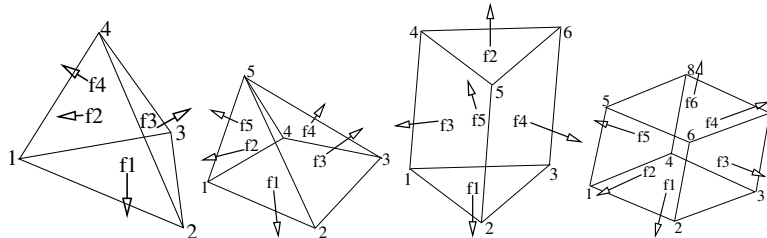

Figure 4.1: Mesh element types in Parmec.
- **elements** - list of elements:  $[e1, n1, n2, \dots, ne1, me1, e2, n1, n2, \dots, ne2, me2, \dots]$ , where  $e1$  is the number of nodes of the first element,  $n1, n2, \dots, ne1$  enumerate the element nodes, and  $me1$  is the material number. Similarly for the second and all remaining elements. Supported numbers of nodes per element are 4, 5, 6, and 8 for respectively *tetrahedron*, *pyramid*, *wedge*, and *hexahedron*, cf. Figure 4.1.